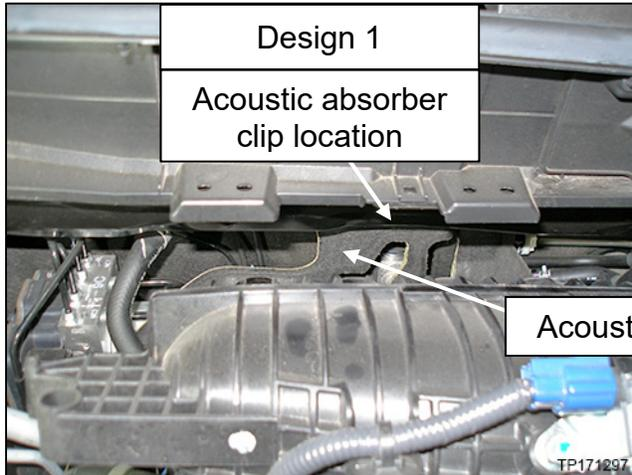
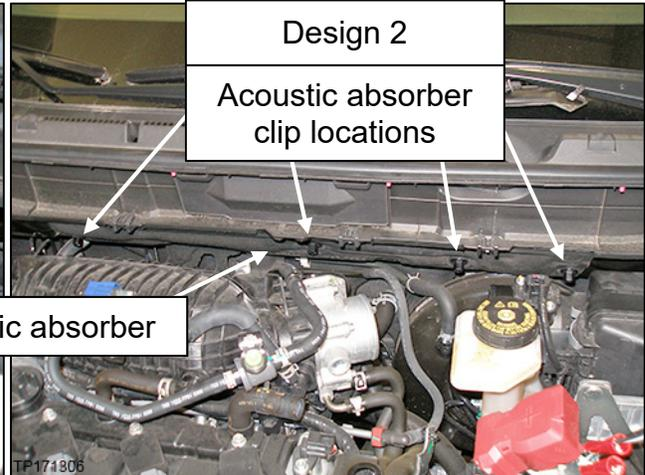

Figure 4
Figure 5
- Clips located in the approximate area shown in Figure 4 and Figure 5.